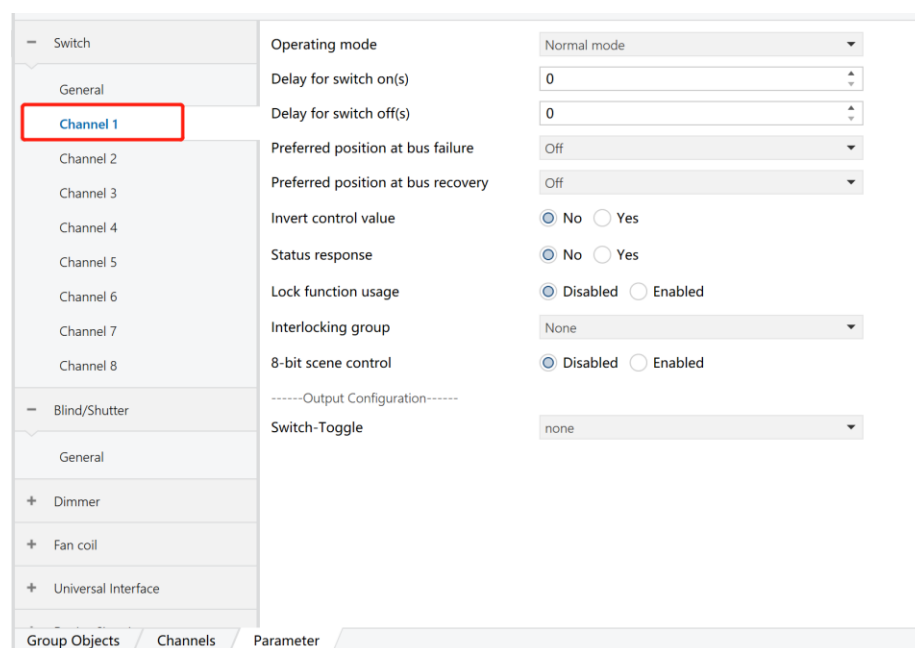

Figure 6.1.3
3) Click the options in the above red box to set the parameters of each circuit respectively. The following takes Channel 1 as an example, as shown in Figure 6.1.3